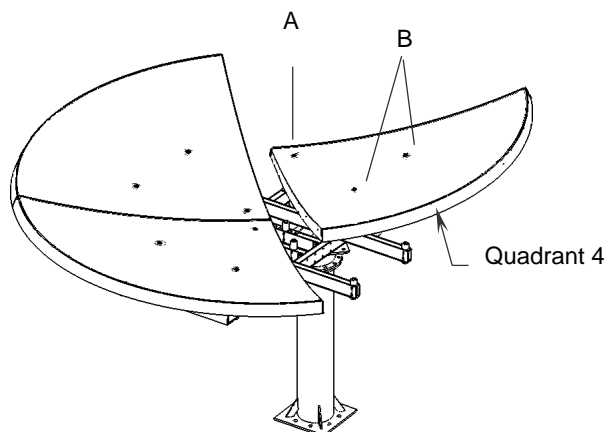

Figure 18: Quadrant 4 Assembly
19. Position quadrant 4 (quadrant 2 for inverted) to the left side of the frame as shown in Figure 18, Quadrant 4 Assembly.